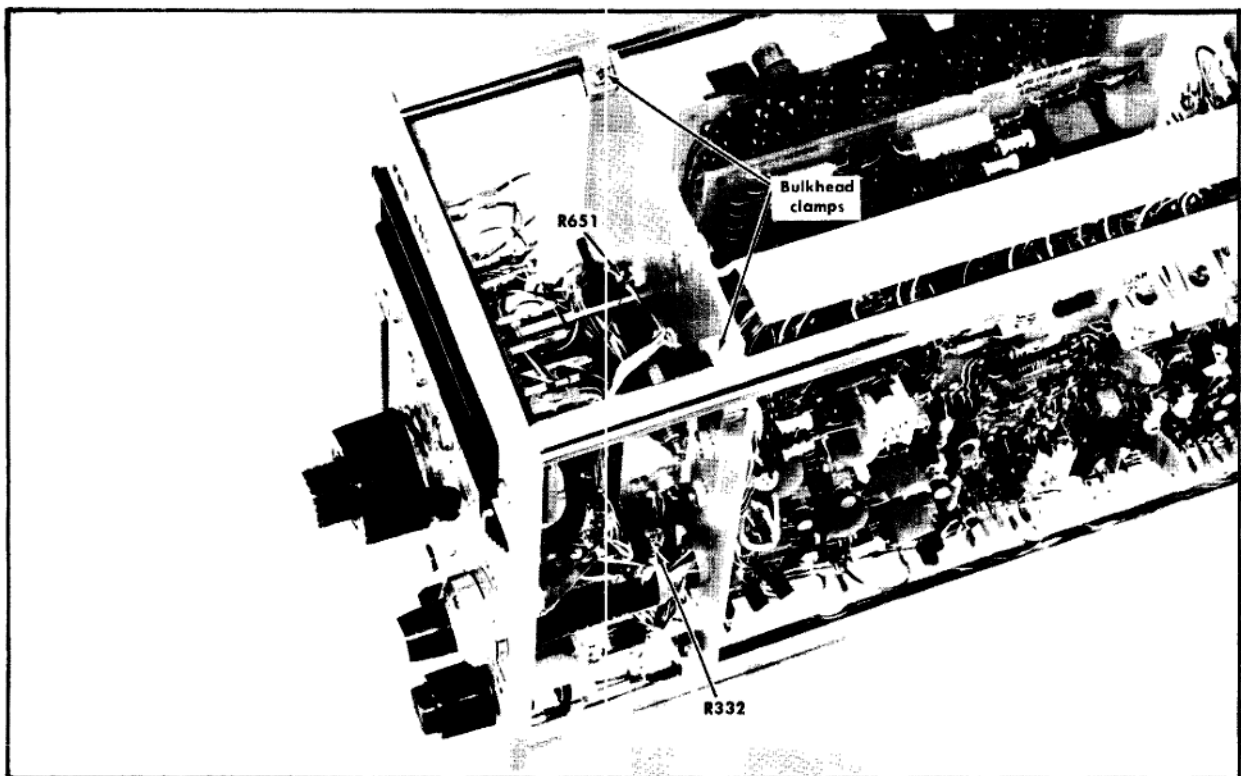

Fig. 4-4. Partial disassembly of the Type 3B5 to allow access to components mounted on the subpanel.
1. Unsolder one end of R332 and R651 (see Fig. 4-4 for location).
3. Loosen the four clamps which hold the center bulkhead to the support rods (see Fig. 4-4).